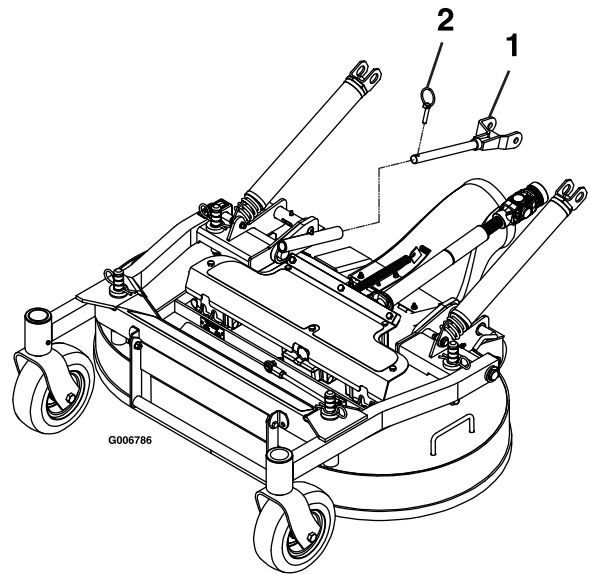

Figure 67
6. Remove the lynch pins at front of push arms on both sides of the machine (Figure 67).
5. Secure the push arms with the lynch pins on the left and right sides of the machine (Figure 67).